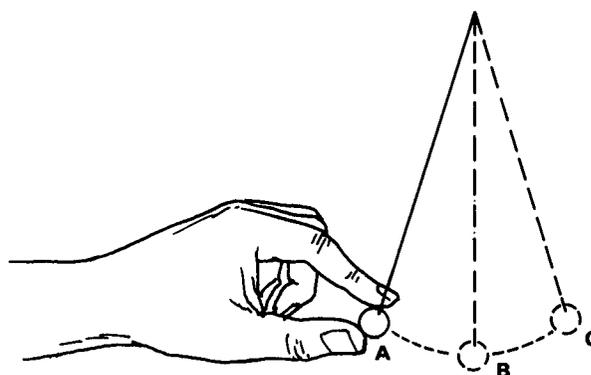

Figure 6-7
4. Set up the pegboard platform and suspend a simple pendulum from a support rod. Use whatever object you wish as a pendulum bob. Start the pendulum bob swinging by holding it to one side (position A) and then releasing it *without pushing*. Observe its motion (Fig. 6-7).